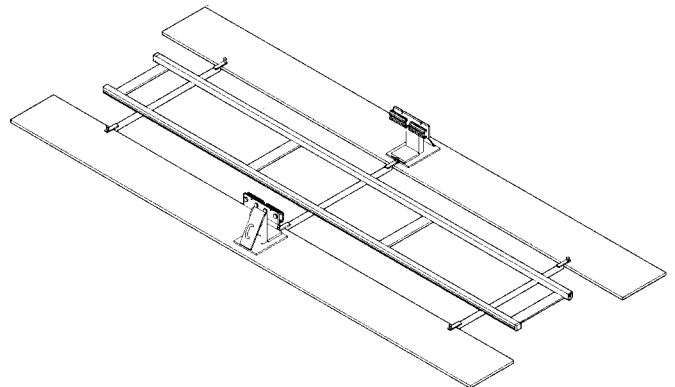

Figure 21
6. Place two pinchweld clamp stands on the rack, centered with the No. 2 bar. (See Figure 21.)